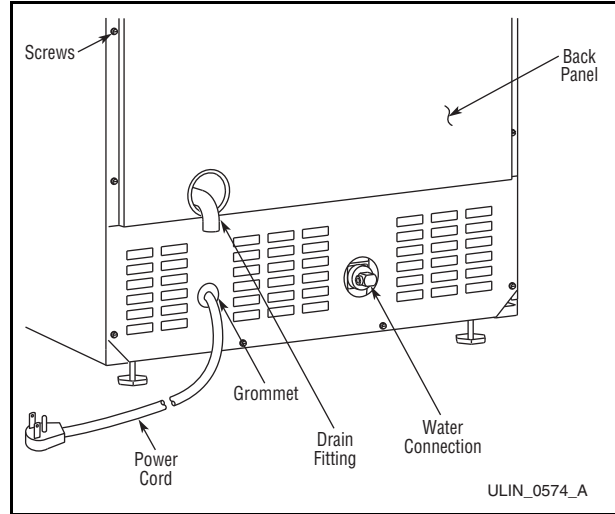

Figure 67
2. Carefully push the power cord grommet through the hole in the back panel (Figure 67).